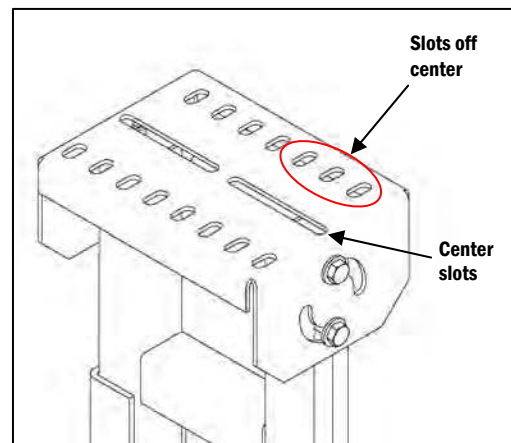

Figure 3
- d. If the Stand is only 2" wider than the conveyor, then the slots off of the center of the Stand's Top Plate will have to be used for mounting (**Figure 3**).